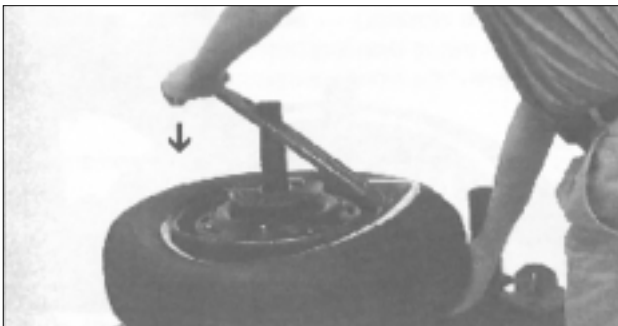

Figure 7 - Tool Properly Positioned
9. Continue to push down on the tool until the center post key protrudes through the slot in the tool and the tool stops against the shoulder of the key. The tool is now positioned properly for operation of the center post key (figure 7). Keep a firm hold on the tool at all times to prevent accidental disconnet.